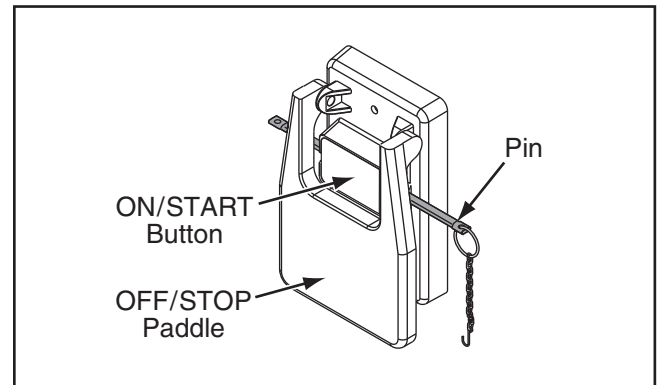

Figure 35. Example of switch disabling pin inserted into START button.
4. Insert switch disabling pin through green ON/START button, as shown in **Figure 35**.